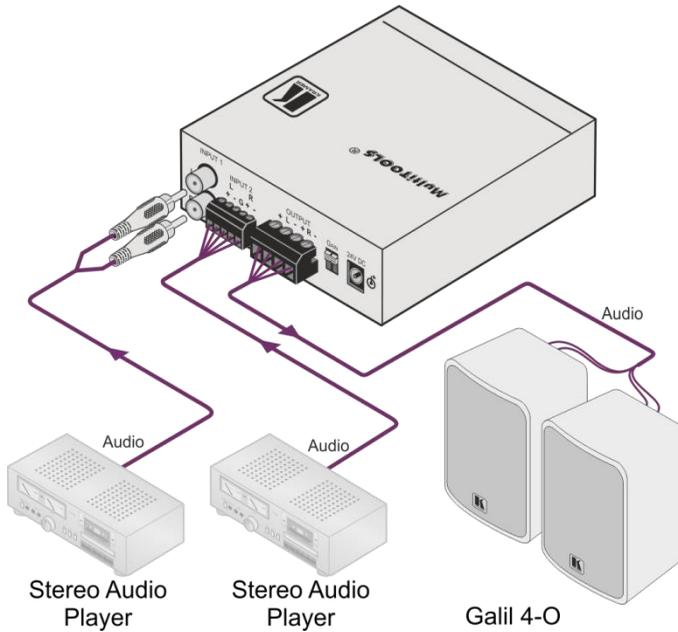

Figure 7: Galil 4-O Installed
6. Repeat step 5 for the other speaker (see Figure 7).
You can connect the **Galil 4-O** speakers to an amplifier, for example the Kramer **907xl** Power Amplifier/Mixer, as illustrated in Figure 7: